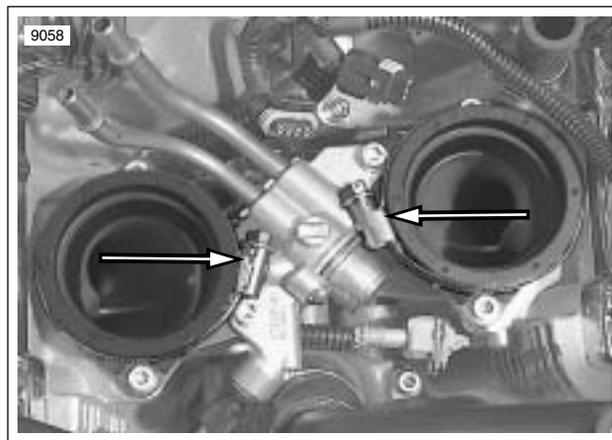
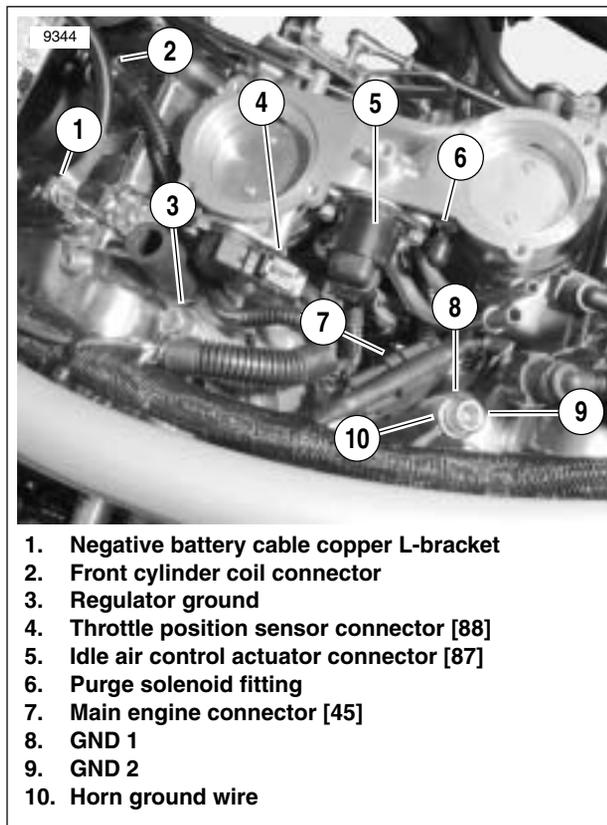

Figure 2-10. Intake Clamps (throttle body removed)
Figure 2-11. Wiring Connections
13. See Figure 2-11. Remove fastener on rear cylinder head and remove GND 1 (8), GND 2 (9) and horn ground wire (10). Replace fastener.
14. Remove fastener on front cylinder head and remove regulator ground (3). Replace fastener.
- a. Front (2) and rear coil connectors [83F, 83R].
- b. Main engine connector [45] (7).
- c. Throttle position sensor [88] (4).
- d. Idle air control actuator [87] (5).
17. For a California model, pull the purge solenoid hose (6) off throttle body.
- b. See Figure 2-10. For engine overhaul, loosen clamps at each intake and lift throttle body straight up. With throttle cables attached, wrap a shop towel around body for protection and secure away from engine. Cover intake openings to prevent objects from falling into intake bore.